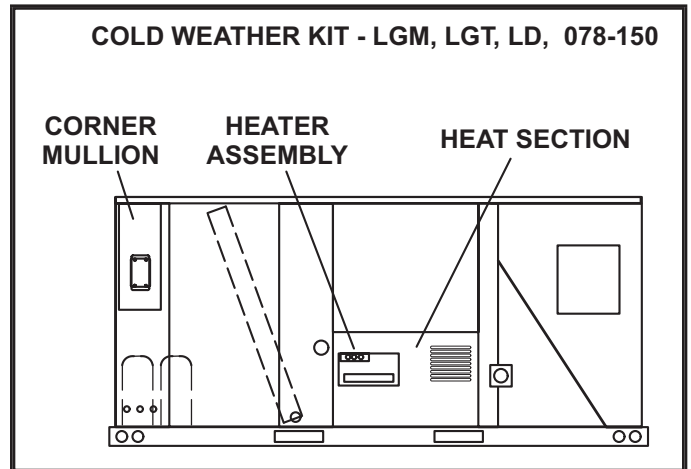

FIGURE 8
- 1 - Disconnect all power to unit and open heat access panel. See figure 8.